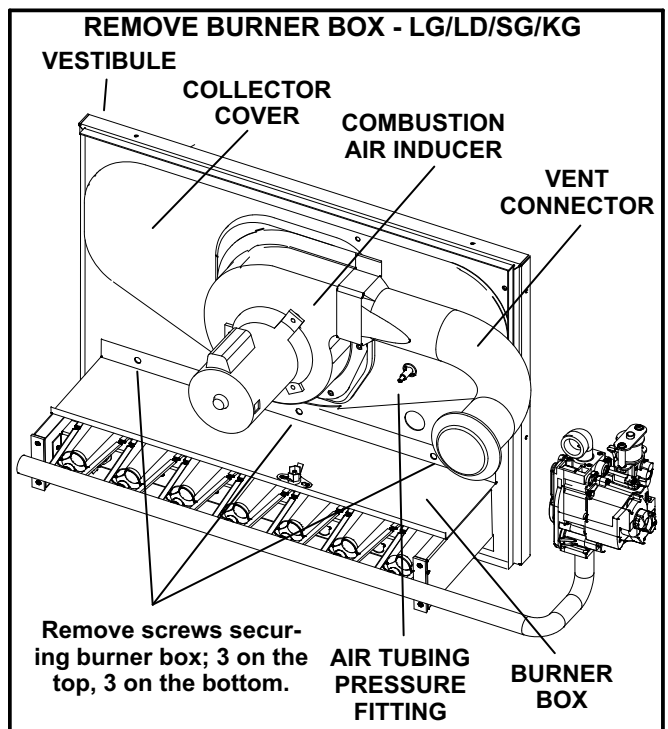

FIGURE 7
- 9- Disconnect the air tubing to the fitting on the vestibule. See figure 7.
- 10- Remove the burner box assembly. Retain six screws holding the assembly in place. See figure 7.
- 11- Remove the vent connector from the combustion air inducer. See figure 7.
- 12- Remove the combustion air inducer. See figure 7.